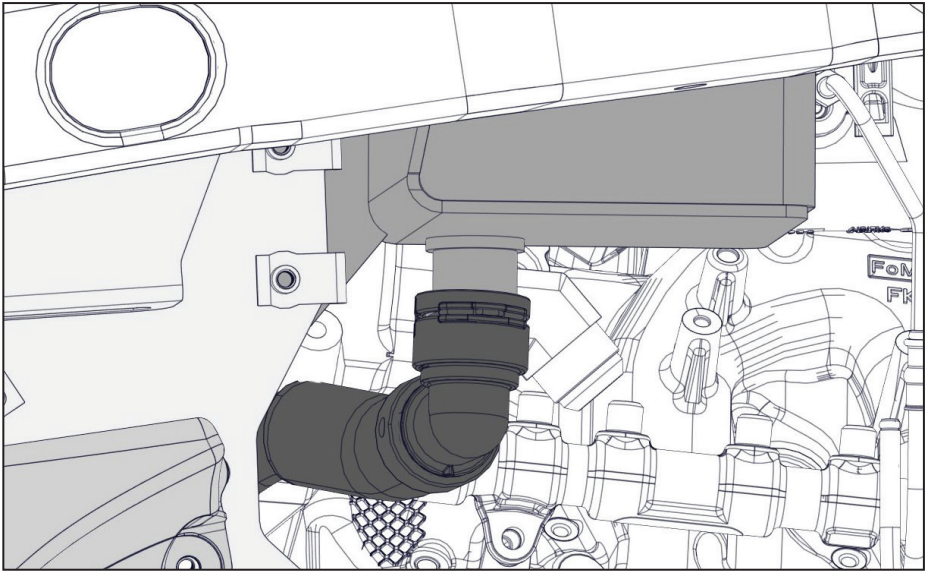

Figure 85 — Connect the drain back hose
- ☐ Install the drain back hose onto the degas tank (Figure 85).